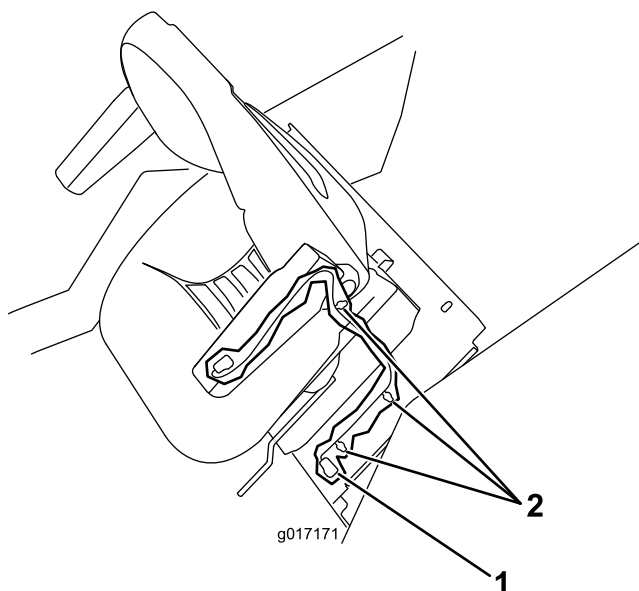

Figure 1
4. Disconnect the seat switch wire from the traction unit harness (Figure 1).
5. Remove any harness clips or cable ties securing the seat wire harness to the seat plate (Figure 1).